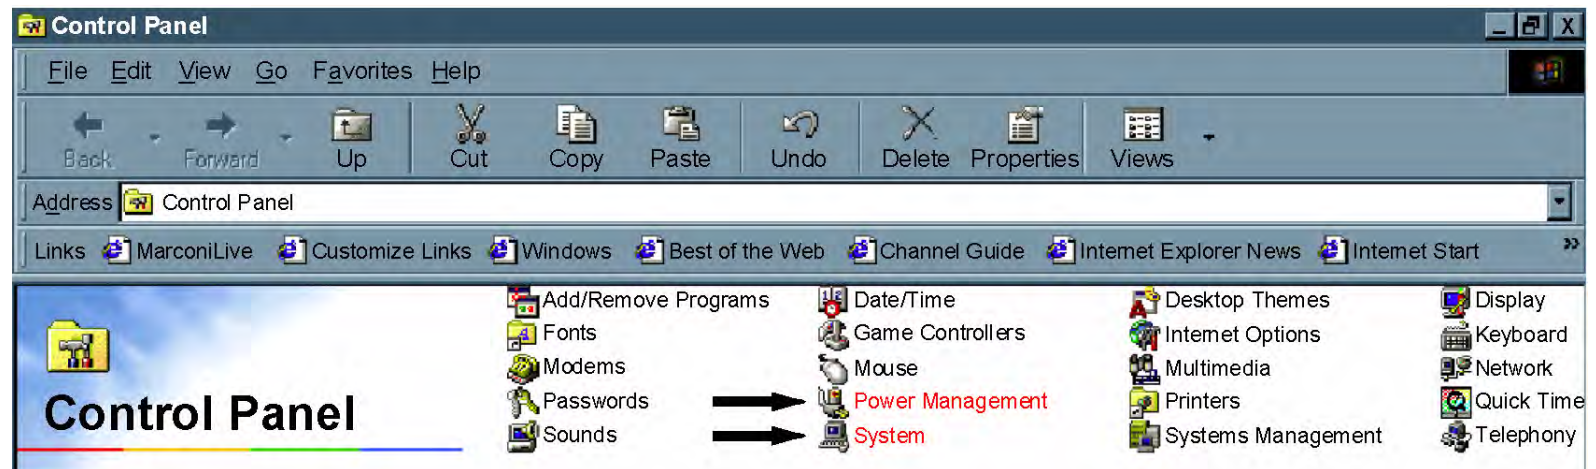

Figure 1 - 1: Windows 98 Control Panel
- 7 Double-click the **Power Management** Icon (Figure 1 - 1). (Windows ME users select Power Options).